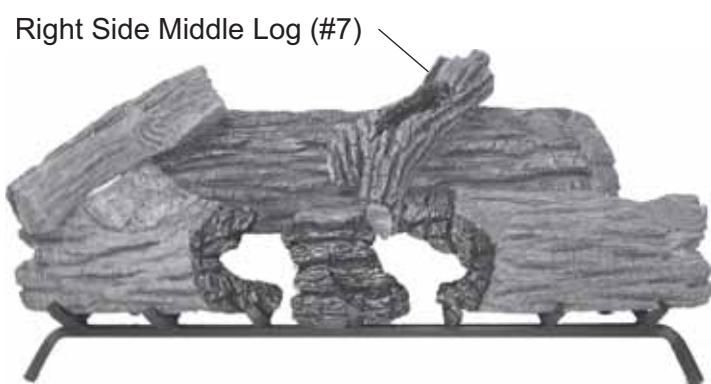

Figure 41 - Installing Right Side Middle Log (#7)
7. Install right side middle log #7. See *Figure 41*.